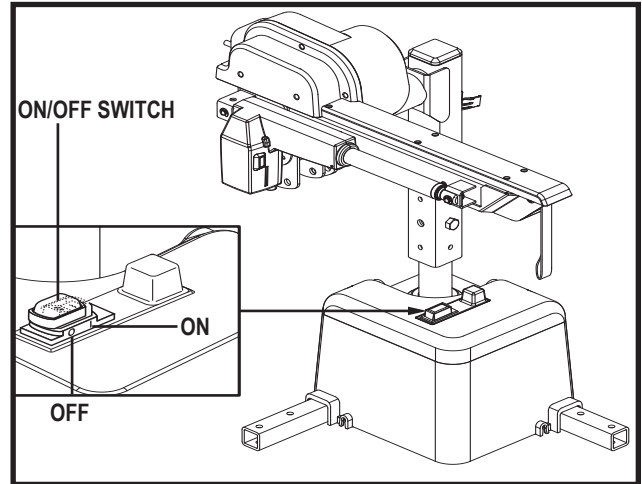

Figure 6. ON/OFF Switch
The lift system is equipped with an ON/OFF switch that enables/disables operation. Toggle the ON/OFF switch to the “I” position to turn the power on; to the “O” position to turn the power off. **See figure 6.**
**NOTE:** The ON/OFF switch also functions as the circuit breaker reset button. **See figure 6.**
- Check the circuit breaker reset button. Reset if necessary. **See figure 6.**
If your lift system is heavily strained because of excessive loads, the main circuit breaker (**see figure 6**) may trip to protect the monitor and electronics from damage. When the breaker trips, the entire electrical system shuts down.
2. Push in the reset button to reset the breaker. **See figure 6.**